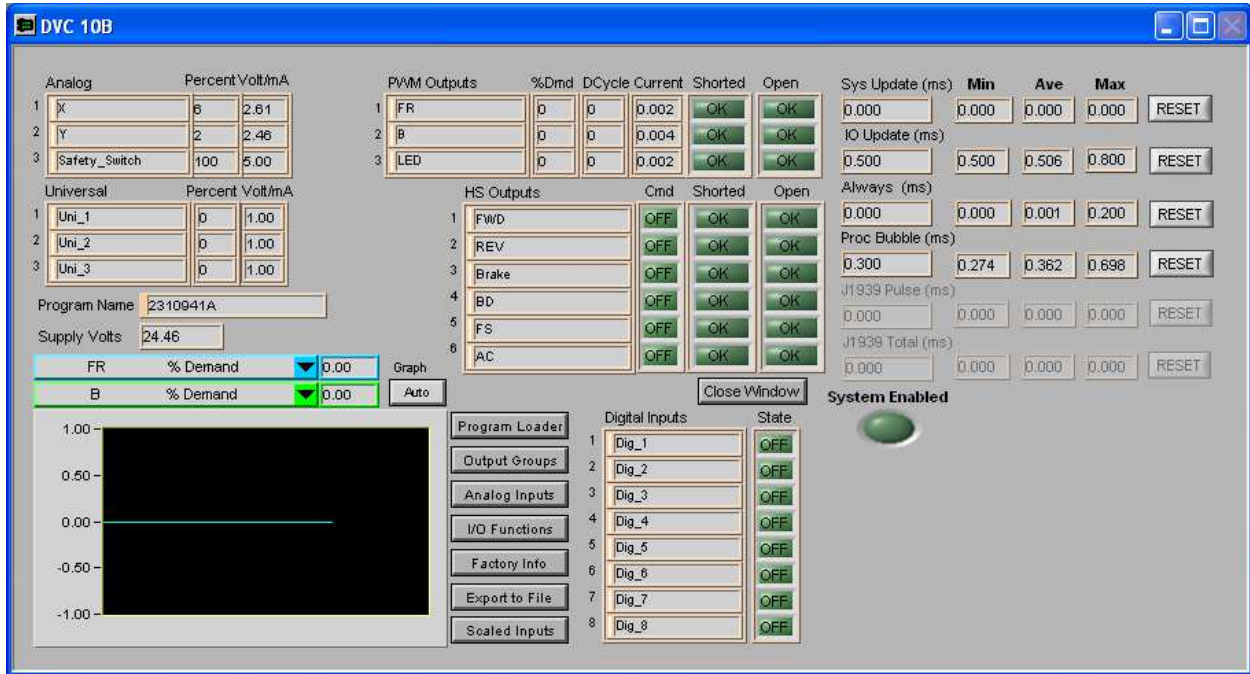

Figure 11 – DVC-10 Monitor Window
- 15) Click the "Close Window" button on the right of the screen to bring up the Main Menu window to exit the Monitor (see Figure 11). Select the Quit button to exit the Program Loader.